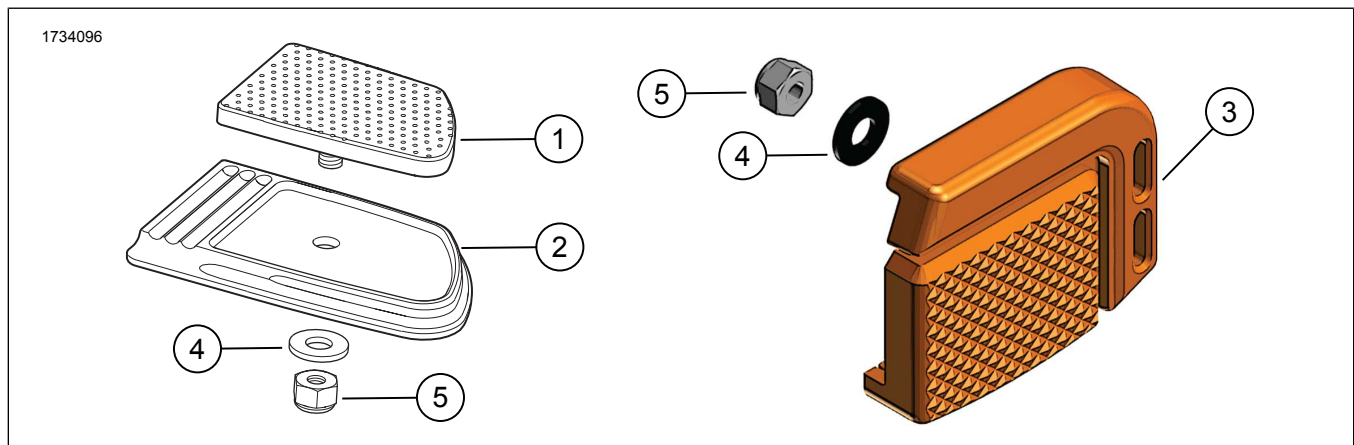

Figure 1. Kit Contents: Small Brake Pedal Pad Kit
1. See Figure 1. Remove currently installed brake pedal pad from vehicle foot brake lever. Discard pad and attaching hardware.
1. See Figure 1. Kits 50600182, 50600187, 50600188:
- a. Align the **new** brake pedal pad (1) with the recess in the trim cover (2).
2. See Figure 1. Kits 50600509, 50600510:
- a. Align **new** brake pedal assembly (3) with vehicle foot brake lever.
4. Install washer (4) onto threaded stud.
5. Install ¼-20 hex locknut (5) onto threaded stud. Tighten.